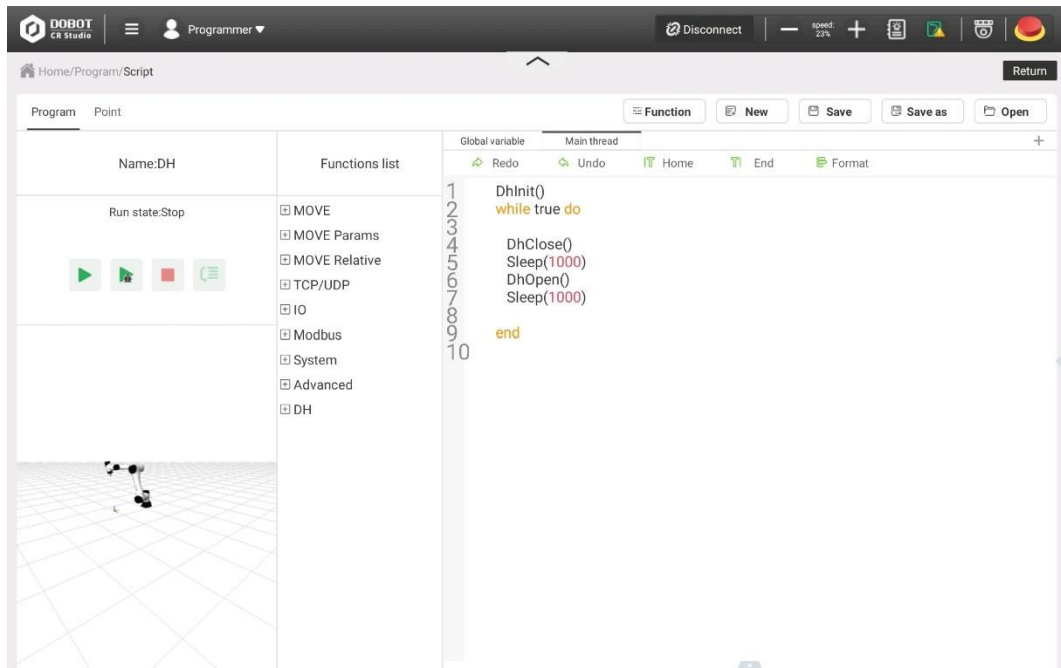

Figure 3.11 Write a program
Step 2 Write programs by using the APIs that DH plug-in supports, as shown in Figure 3.11.